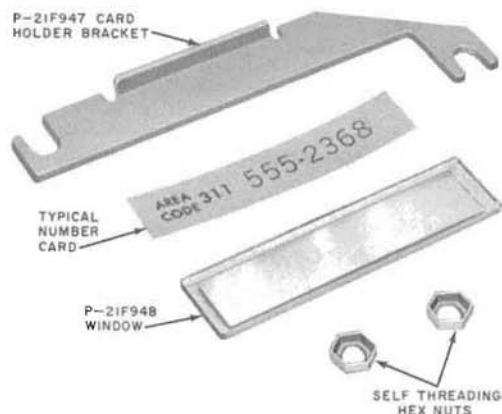

Fig. 17—Number Card and Associated Hardware (TOUCH-TONE Set)
2.36 A P-21F947 card holder bracket, P-21F948 window, and two hex nuts (Fig. 17) are packaged separately and shipped in the cash compartment.